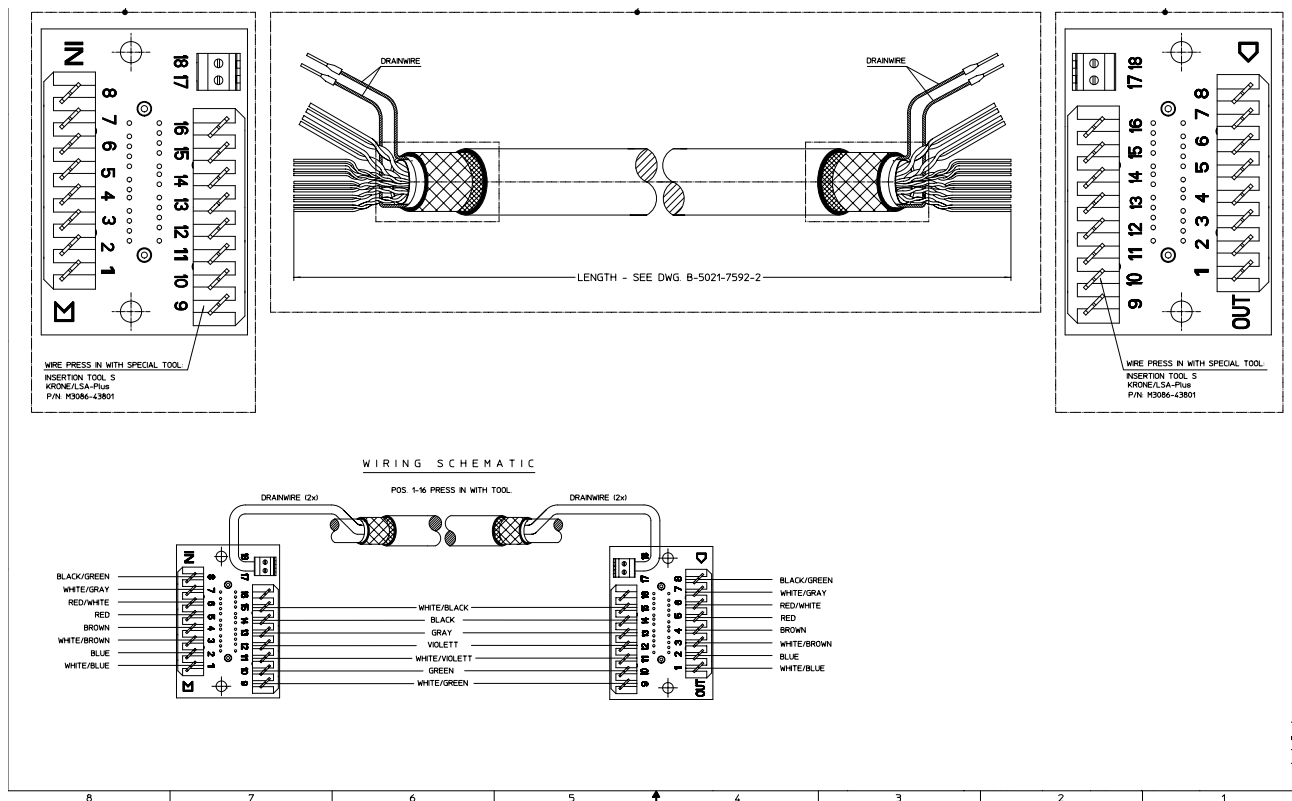

Figure 28 Wiring Schematic
- 3 Use the Insertion Tool (M3086-43801) to position each wire on the PCB according the wiring schematic in Figure 28, where each color corresponds to a number.
- 4 Use a small screwdriver to connect the two drain wires to the PCB, see the wiring schematic in Figure 28.